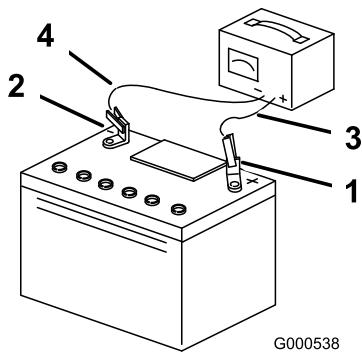

Figure 54
4. When the battery is fully charged, unplug the charger from the electrical outlet, then disconnect the charger leads from the battery posts (Figure 54).